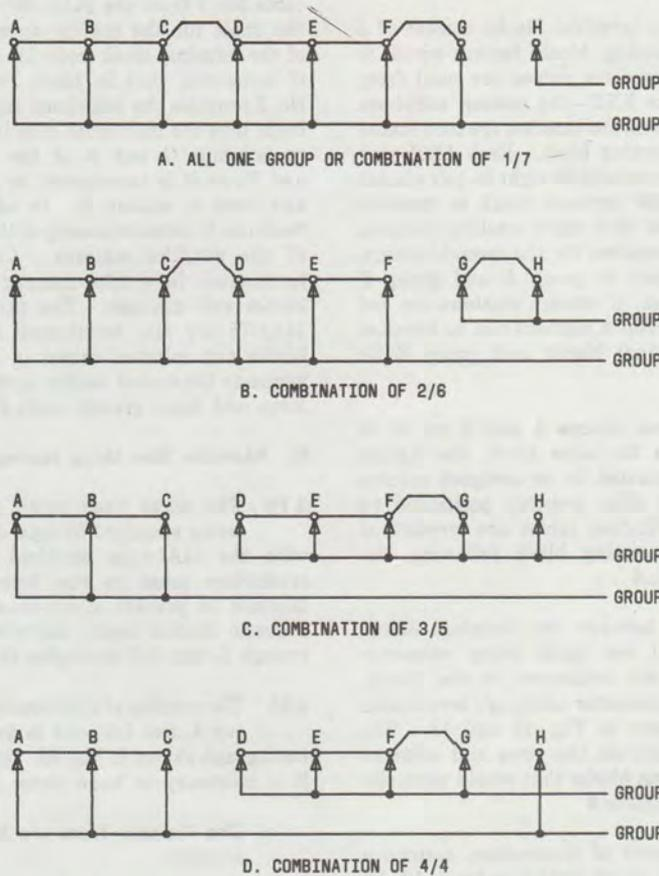
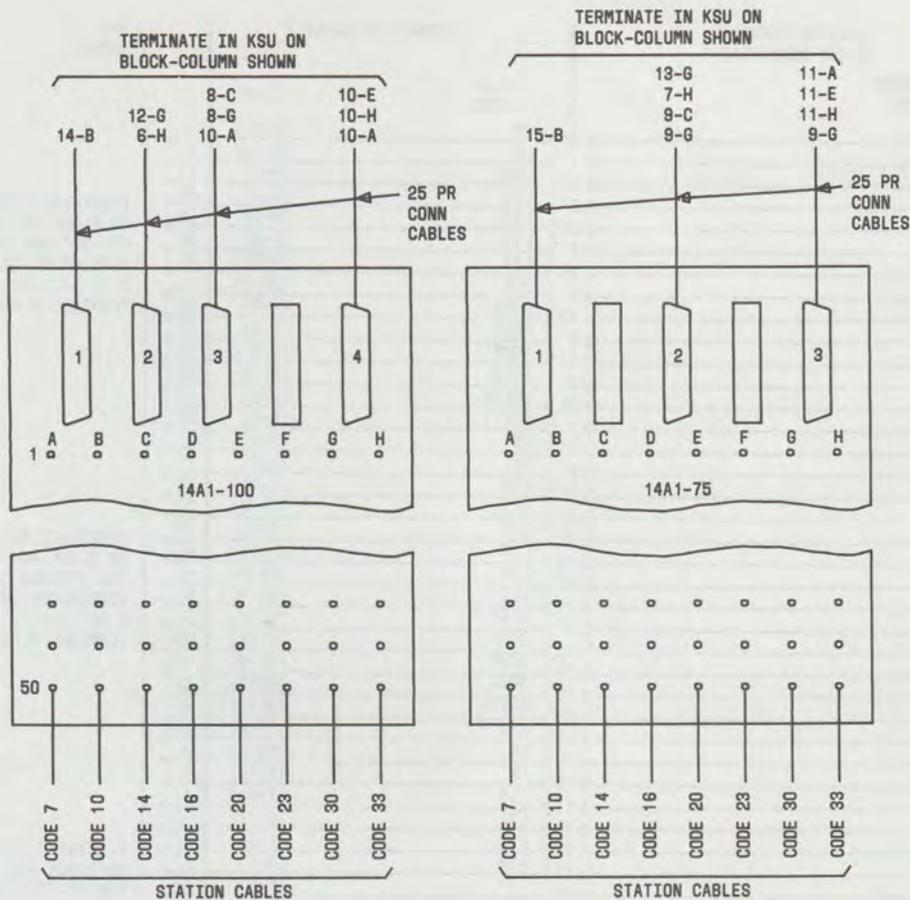

Fig. 16—Terminal Assignments and Bridging Clip Locations—14A1-Type Terminal Blocks
Fig. 19—Example of Satellite Wiring Using 14A1-Type Terminal Blocks
3.15 If stations from groups A and B are to be intermixed on the same block, the station cables must be terminated on an assigned column and the B bridging clips properly positioned as shown in Fig. 16. Station cables are terminated on the 66-type connecting block following the even-count color code.
3.17 For the purpose of illustration, assume a satellite made up of station codes 7, 10, 14, 16, 20, 23, 30, and 33. One 14A1-100 terminal block will be required for the first binder of the station cables and one 14A1-75 for the second binder. Three stations (7, 10, 14) are in lamp group A and five stations (16, 20, 23, 30, 33) are in lamp group B, requiring terminations and the placing of the bridging clips for a 3/5 combination as shown in Fig. 16. The station cables are terminated so that the three stations of group A appear on columns A, B, and C (codes 7, 10, 14, respectively), and the five stations of group B are on columns D, E, F, G, and H (codes 16, 20, 23, 30, 33, respectively) as shown in Fig. 19.
KSU as shown in Fig. 17 and 18. For this example, cable No. 1 from the 14A1-100 is terminated where the cable for the station appearing on column H of the terminal block (code 33) would be terminated if home-run, that is, block 14, column B. Cable No. 2 provides the additional lamp and lamp ground leads plus the individual code leads for the stations on columns G and A of the 14A1-100 (codes 30 and 7), so it is terminated on block 12, column G, and block 6, column H. In addition, the four A1 leads can be obtained on any of the spare terminations of the satellite stations. Cables 3 and 4 are terminated in a like manner on the designated blocks and columns. The three cables from the 14A1-75 are also terminated in the KSU on the blocks and columns shown in Fig. 19 and provide access to the second binder leads plus the additional lamp and lamp ground leads.